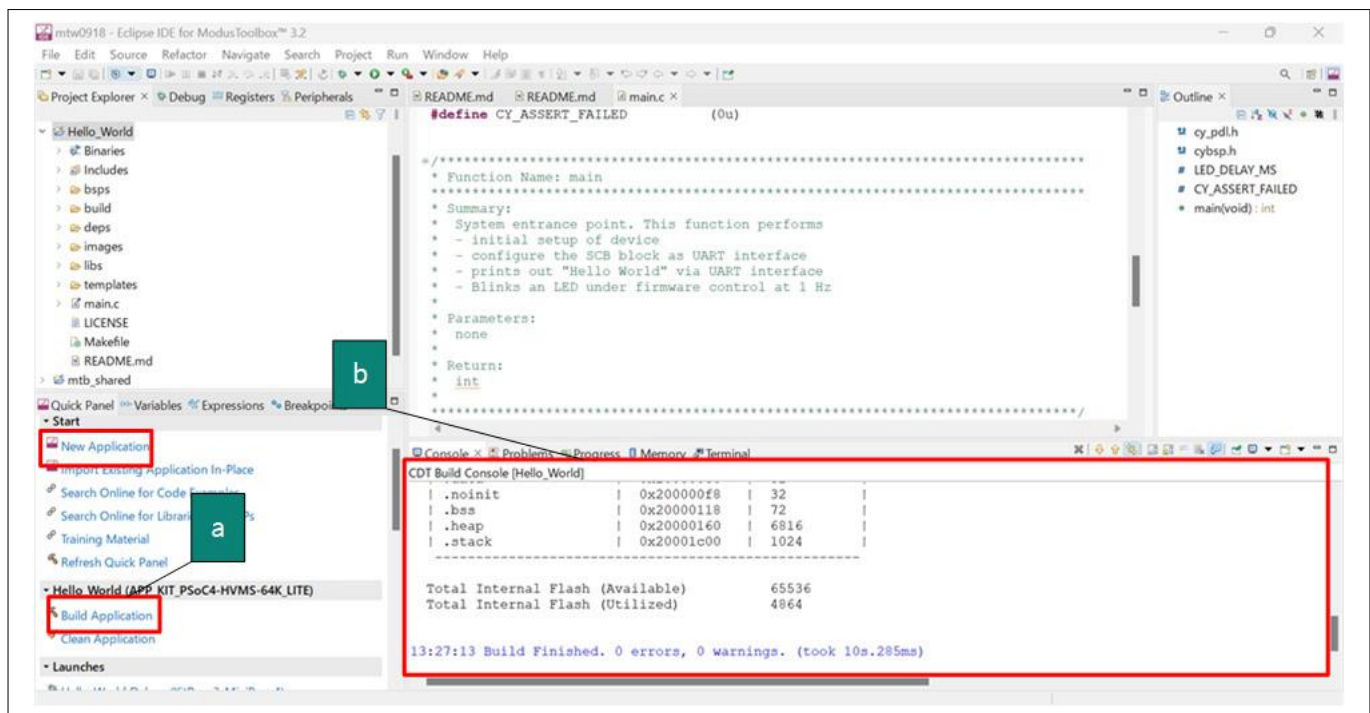

Figure 13 Build the application
- The **Console** view lists the results of the build operation (see Figure 13)